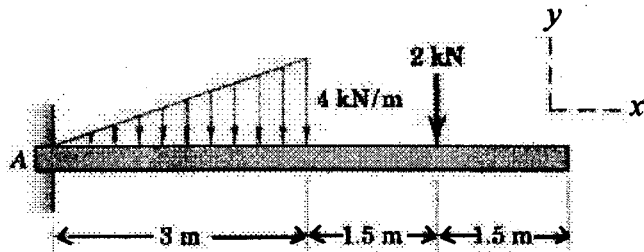

Fig 7
b) Determine the reactions at A for the cantilever beam subjected to the distributed and concentrated loads. (Fig 7)